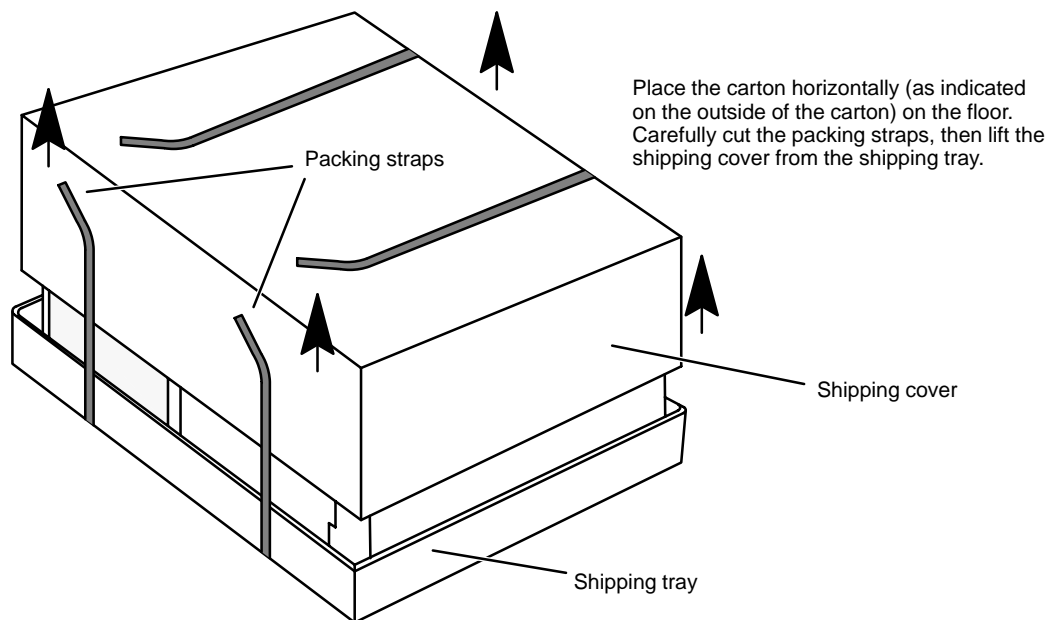

Figure 1–4 Removing the Shipping Cover
2. Refer to Figures 1–4 through 1–7 to unpack the computer unit.
While the instructions in Figures 1–4 through 1–7 should enable you to unpack the unit alone, you might want the help of another person.